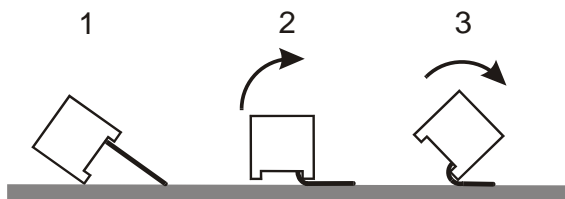

Figure 5. Preparing Light Bar Leads.
- Prepare the leads of the yellow light bar for mounting on the PCB by bending them as shown in Figure 5. Press the leads against a smooth, hard surface and roll the light bar until they are at about a 45 degree angle to the side of the light bar.